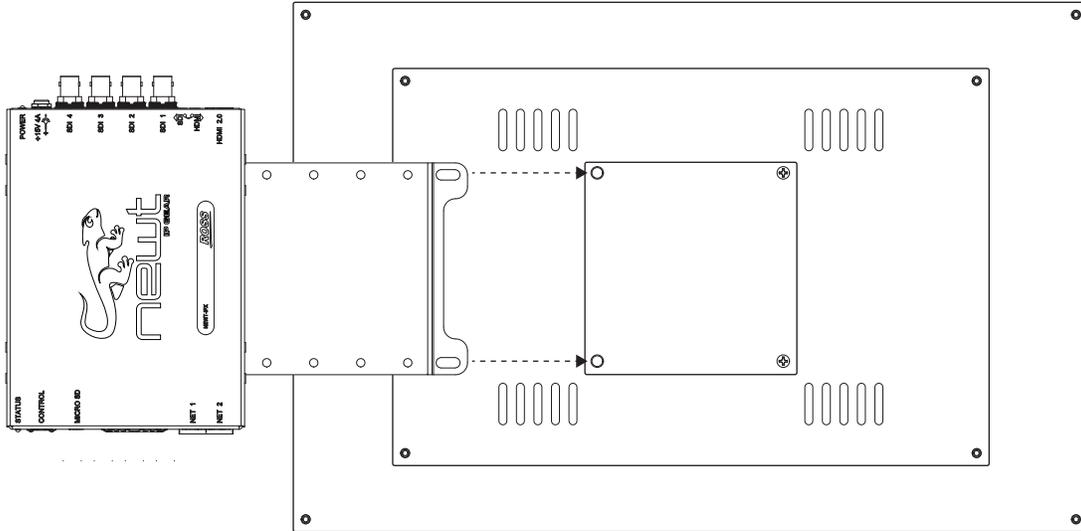

Figure 3 Example of Installing the NEWT-IPX to a VESA 100mm Mount
1. Install the VESA 100mm mount on the monitor as outlined in its documentation, leaving the two screws aside for the holes that the NEWT-IPX will use. **Figure 3** shows the two left screws (as viewed from the monitor rear).